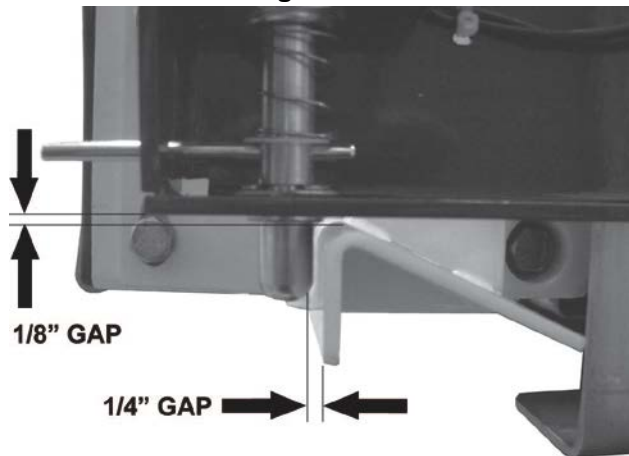

FIGURE 4-43A: STRIKER PLATE/STOW-LOCK ADJUSTMENT
- a. Adjust Stow-Lock to 1/8" (3 mm) gap at top of Striker Plate and 1/4" (6 mm) gap between Stow Lock and front edge of Striker Plate as shown in **Figure 4-43A**.